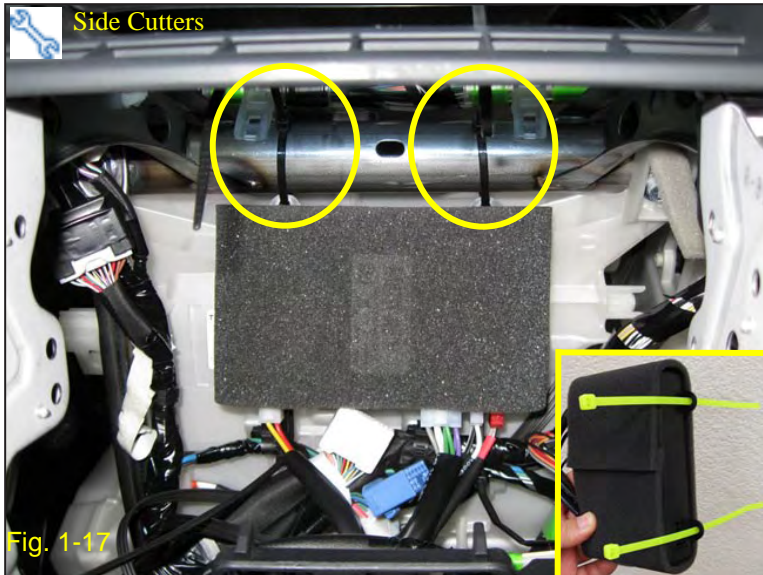

Fig. 1-17
1. Insert two (2) wire ties and loosely mount the module (facing down) to the crossbar (Fig. 1-17).